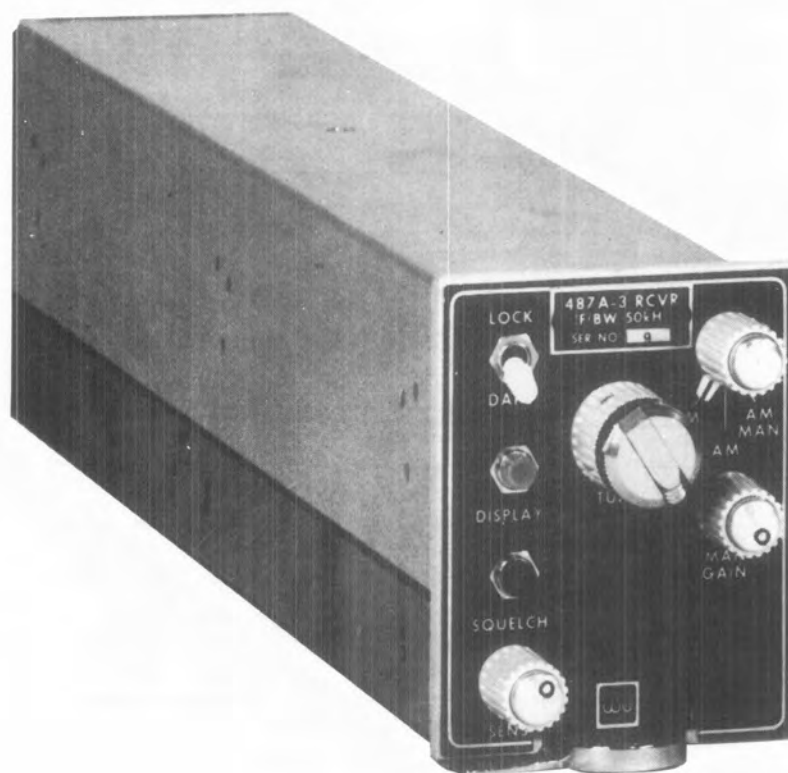

Figure 1-1. Type 487A-(X) Receiver, Front View
1.2.2 A frontal view of the 487A Receiver is shown in Figure 1-1. Additional views are shown in Figures 5-1 through 5-4. For dimensions and weight see Table 1-2.